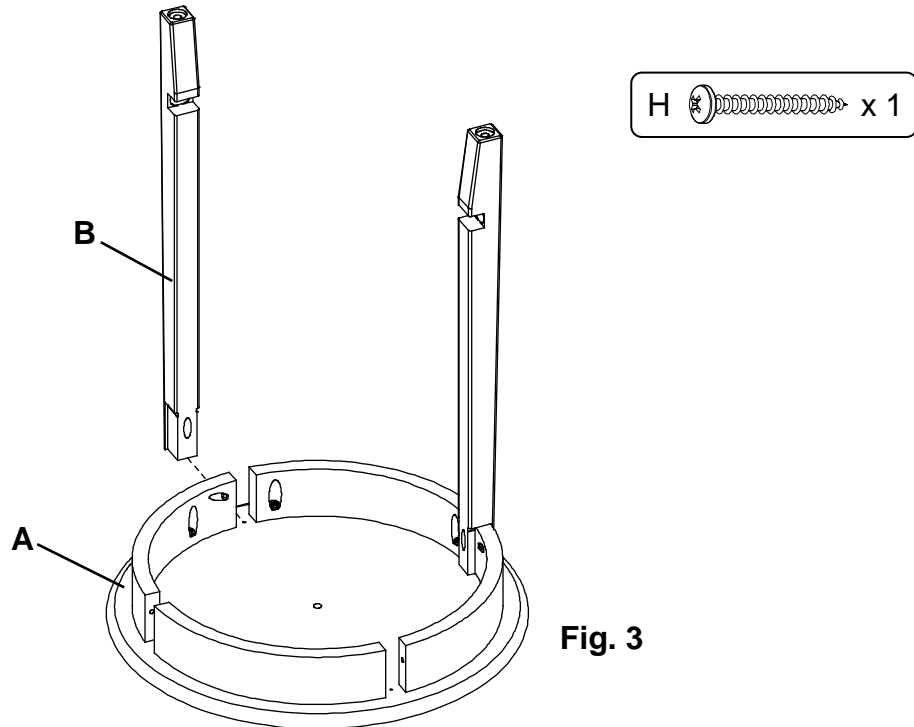

Fig. 3
3. Place a second Leg (B) in a corner of the Top Assembly (A) and using the pocket hole as a guide, secure the Leg (B) with one #8 x 1-1/4" Pan Head Screw (E). See Figure 3.